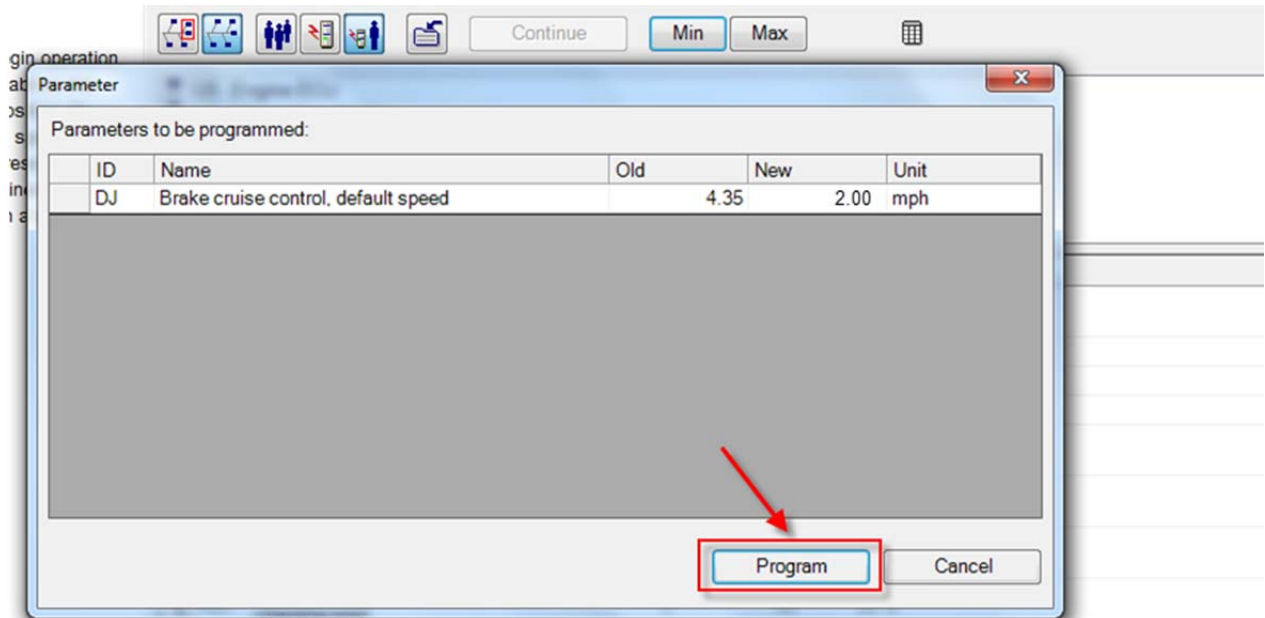

FIGURE 35
7. Click on PROGRAM button (FIGURE 35).